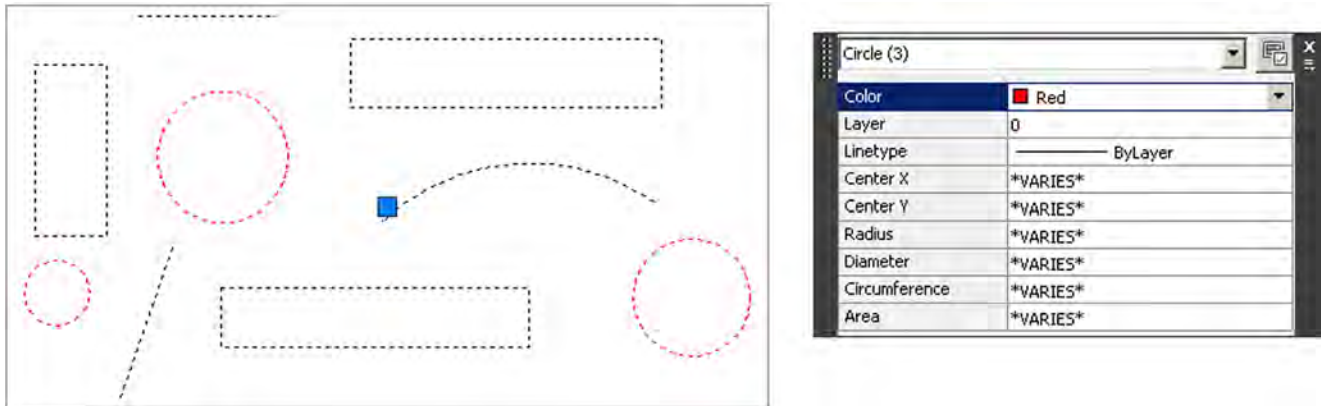

FIGURE 7.23
Drop down the top menu and you see a breakdown of the group, object by object. There are three rectangles (polyline), two lines, one arc, and three circles, for a total of nine objects. Select Circle (3) in the menu and the palette shows only the properties of the circles. Go ahead and change the color to red and observe the result (Figure 7.23).